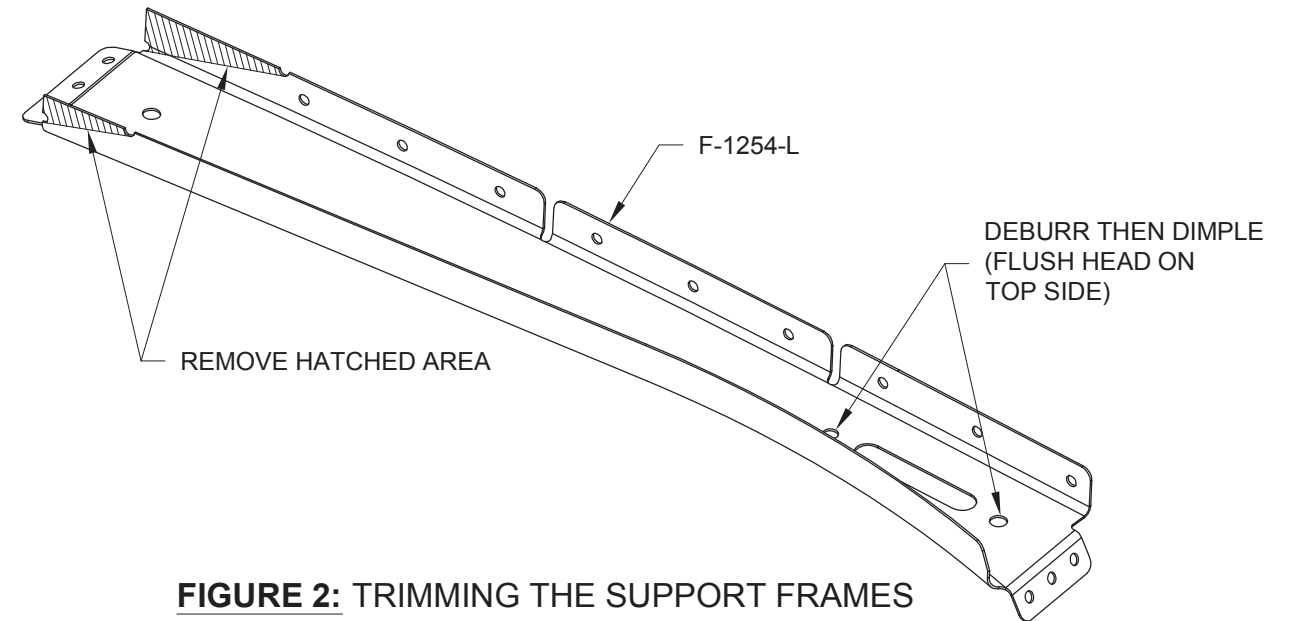

FIGURE 2: TRIMMING THE SUPPORT FRAMES
Step 10: Remove the hatched areas shown in Figure 2 from the flanges of both the F-1254-L & -R Support Frames.
Step 11: Deburr then dimple both holes indicated in Figure 2 for the head of a #8 screw.